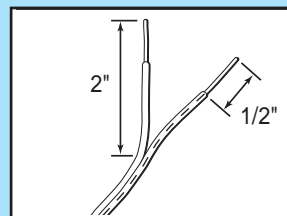

FIG. 4-7 Splitting and stripping
- Split and strip ends of sensor wires and pre-wired wires (Fig. 4-7).
4. Split and strip ends of sensor wires (Fig. 4-7).